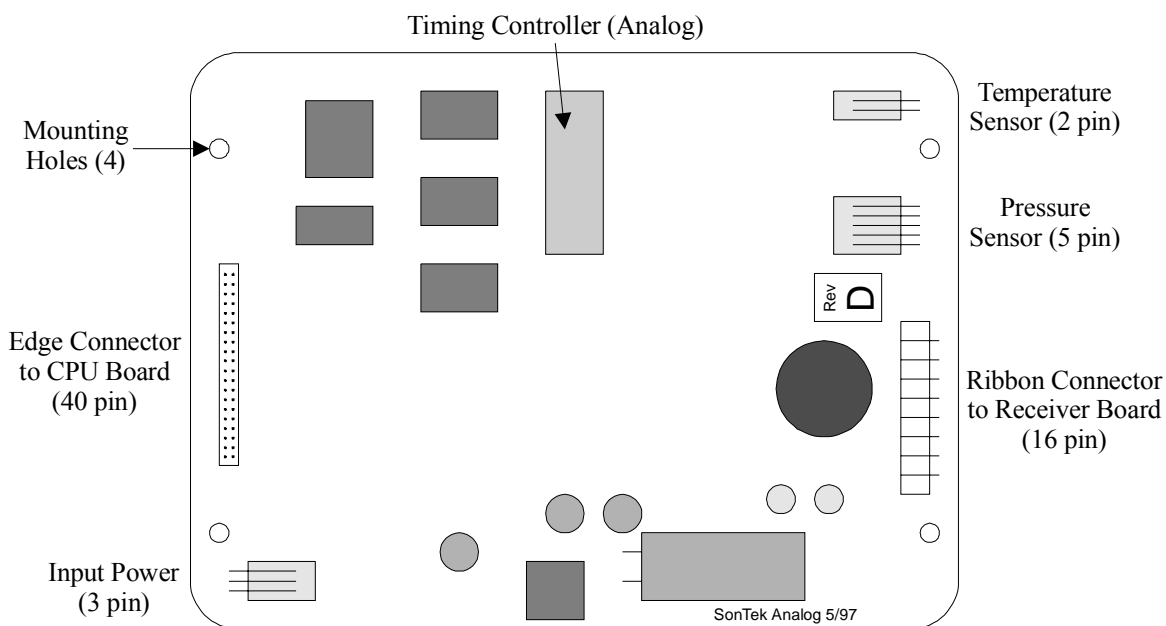

Figure 9 – Argonaut Processor Analog Board
The Argonaut processor consists of two printed circuit (PC) boards called the analog and CPU boards. The boards are installed in the Argonaut separated by four, ½” standoffs, with the analog board on top; they are connected using a 40-pin edge connector at one end of the board. Figure 9 shows the basic layout of the analog board. Important features on the board are listed below.